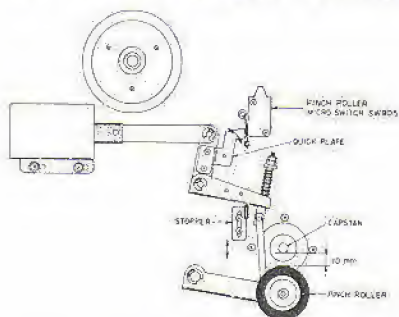

Fig. 1
1. PINCH ROLLER POSITION ADJUSTMENT AT STOP MODE (Refer to Fig. 1)
4. POSITION ADJUSTMENT OF QUICK PLATE (Refer to Fig. 1)